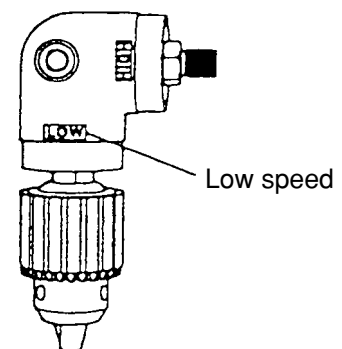

Fig. 9
- To operate the angle unit at low speed, attach the chuck to the angle unit spindle at the side marked "LOW" and secure the locking screw. At this setting, the drilling speed is decreased to about 70% and the drilling torque increased to about 150%. (Fig. 9)